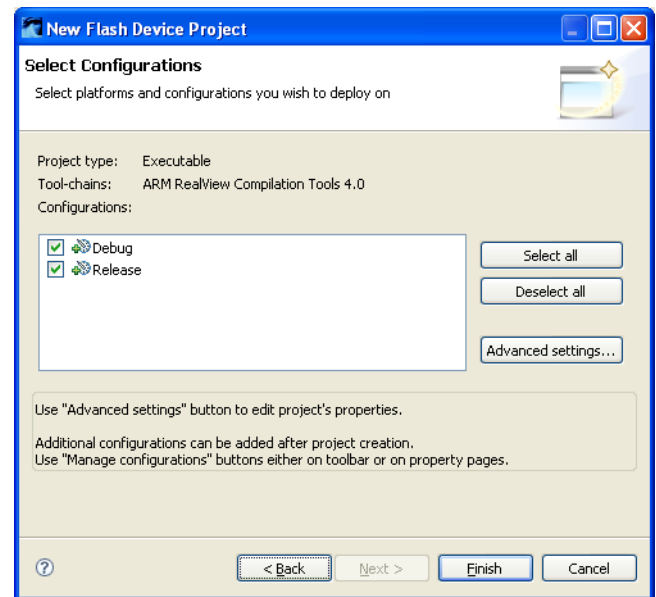

Figure 6-15 Flash device configuration settings
6. In the Configurations panel, leave the **Debug** and **Release** options selected to enable you to save different project settings for both debug and release configurations, see Figure 6-15 on page 6-13. Click on **Finish**.